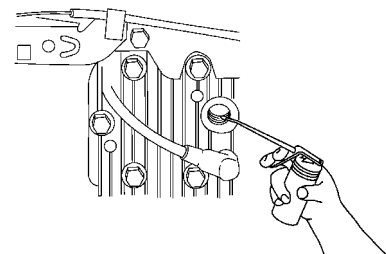

Figure 37
2. Using an oil can, add about one tablespoon of oil to the engine through the spark plug hole (Fig. 37).